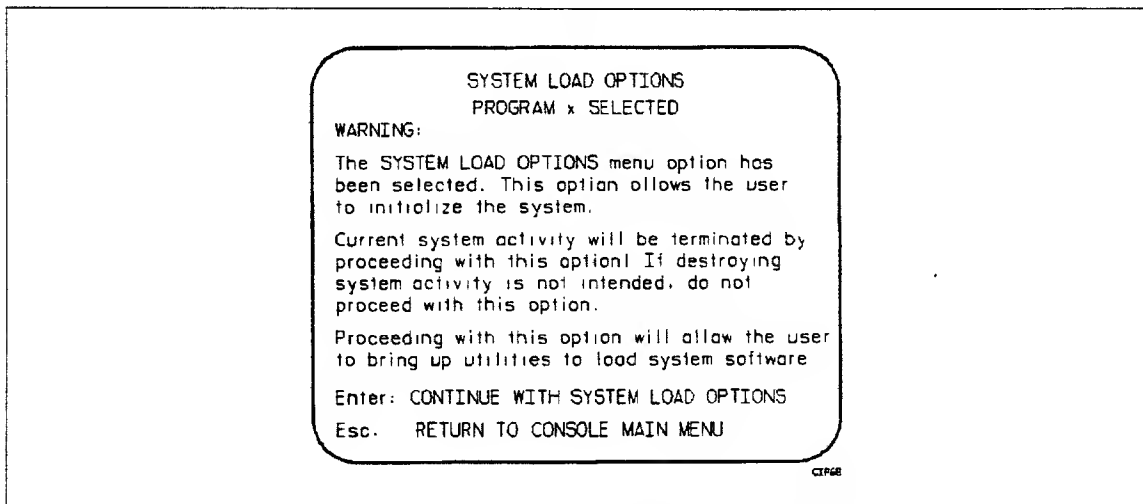

Figure 3-4. System Load Options Warning (Dual IOU Systems)
- ___ a. To execute a short deadstart, type **S** or press **Enter** from the CONSOLE MAIN MENU; the SYSTEM LOAD OPTIONS warning shown in figure 3-4 appears. From this display, press the **Enter** key to proceed with the deadstart. This option deadstarts both IOU0 and IOU1. Upon completion of the deadstart, the INITIAL OPTIONS display appears.
- ___ 2. From the CONSOLE MAIN MENU display, type **S** or press **Enter**. Because current system activity will be terminated by proceeding with the **S** option, the warning display shown in figure 3-4 appears. From this display, press **Enter** to proceed to the INITIAL OPTIONS display.
- 2. From the CONSOLE MAIN MENU display, type S or press **Enter**. Because current system activity will be terminated by proceeding with the S option, the warning display shown in figure 3-4 appears. From this display, press **Enter** to proceed to the INITIAL OPTIONS display.